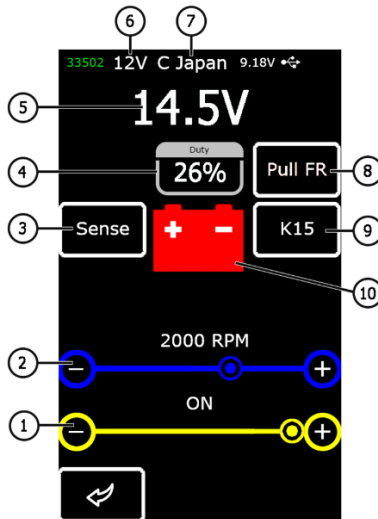

Figure 10. Diagnostic screen information
Upon entering the test mode for voltage regulators, the following information will appear on the screen (Fig.10):
- 5) Assessment of the voltage regulator capability to adjust to the preset stabilizing voltage. Use a cursor (Fig.10, n.1) to set the voltage.